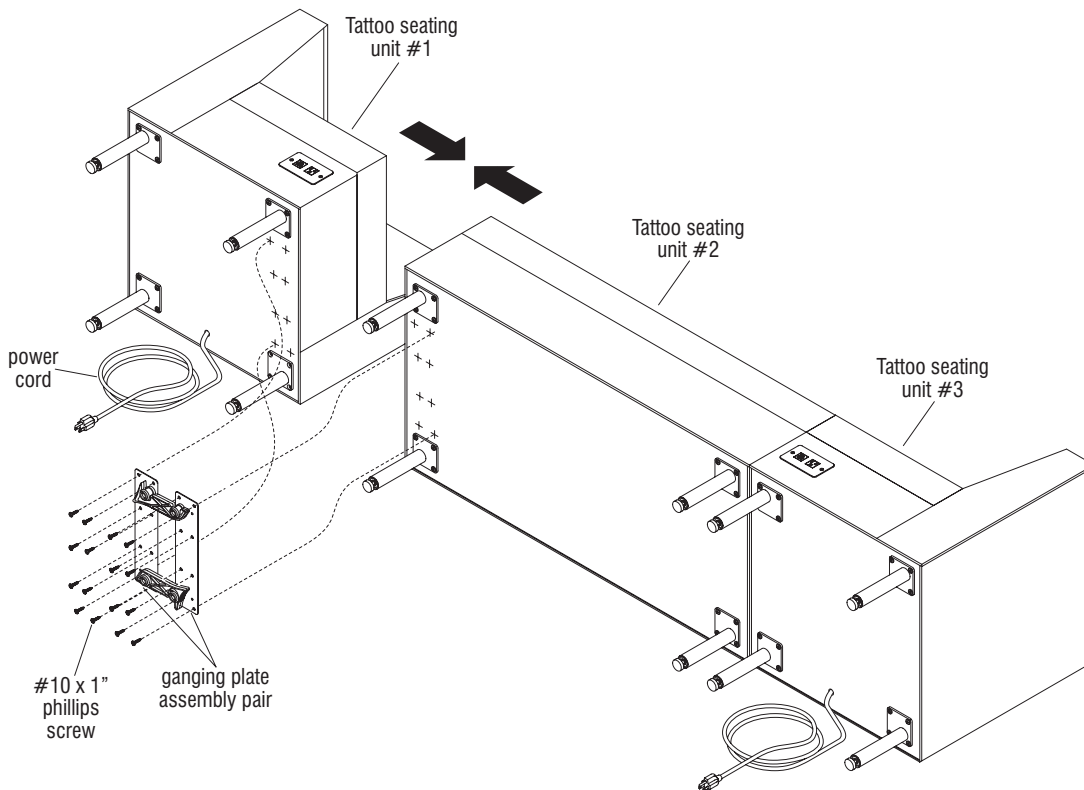

Figure 3
7. While holding the units tightly together, secure the hooked-together ganging plate assembly pair to the bottom of the two units using a drill driver, #2 Phillips bit and all sixteen #10 x 1" screws provided. Repeat steps 6 & 7 for all units to be ganged side-to-side for the configuration (Figure 3).